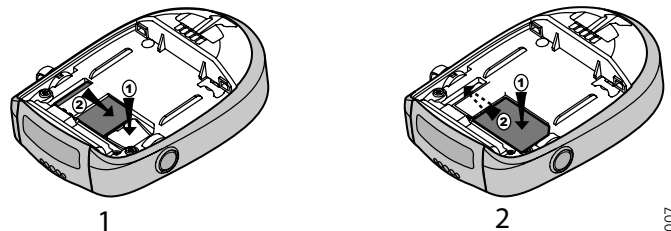

Figure 7. Removal and replacement of the SIM card.
- 1 Remove the battery, see section Replace the Battery above. The SIM card is placed under the battery unit in a hatch. See 1 in figure 7 on page 11: Press down the flexible stop (1) and move the SIM card back as far as possible (2). Be sure that the SIM card is entirely out of the hatch before removing it. The easiest way to ensure this is to turn the Alarm Transmitter upside down and let the SIM card falls out in your hand.
- 2 Replace the SIM card with a new, see 2 in figure 7 on page 11: Put down the SIM card so it lies flat on the flexible stop (1) and push it carefully into the hatch (2).